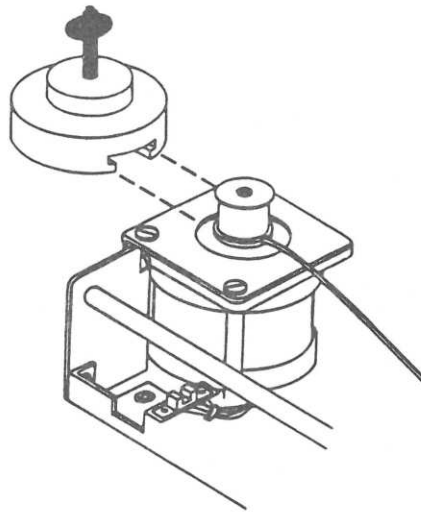

FIGURE 21
15. Use the pulley remover to take off the motor pulley. Slide the pulley remover onto the top of the pulley and turn the screw clockwise until the pulley is free. (See Figure 21.)